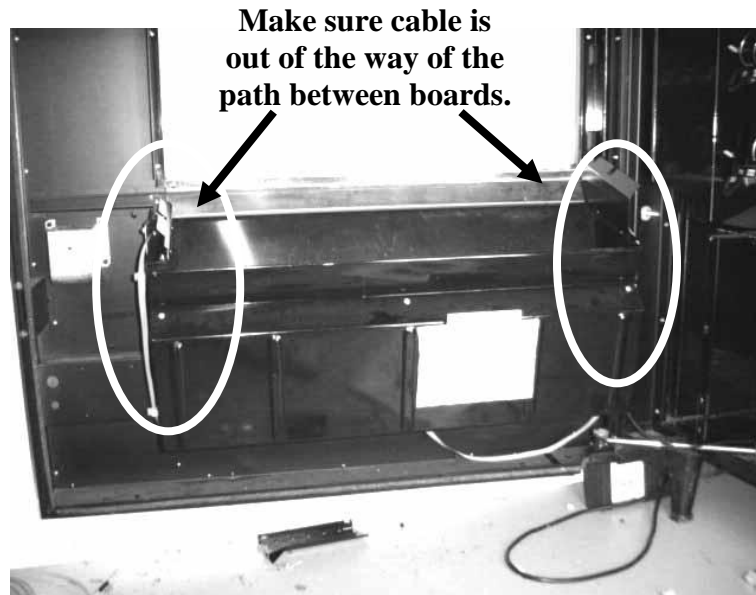

Figure 5.
6. Confirm these two boards are connected with the Sensor Board Cable. The connectors are polarized so please take note to how they are plugged in. The cable should run along the sides and underneath the bin . Wire clasps are provided if needed. Make sure that this cable is OUTSIDE of the bin and not in the path of the boards. The two boards should be able to “see” each other with no obstructions. Refer to Figure 5.